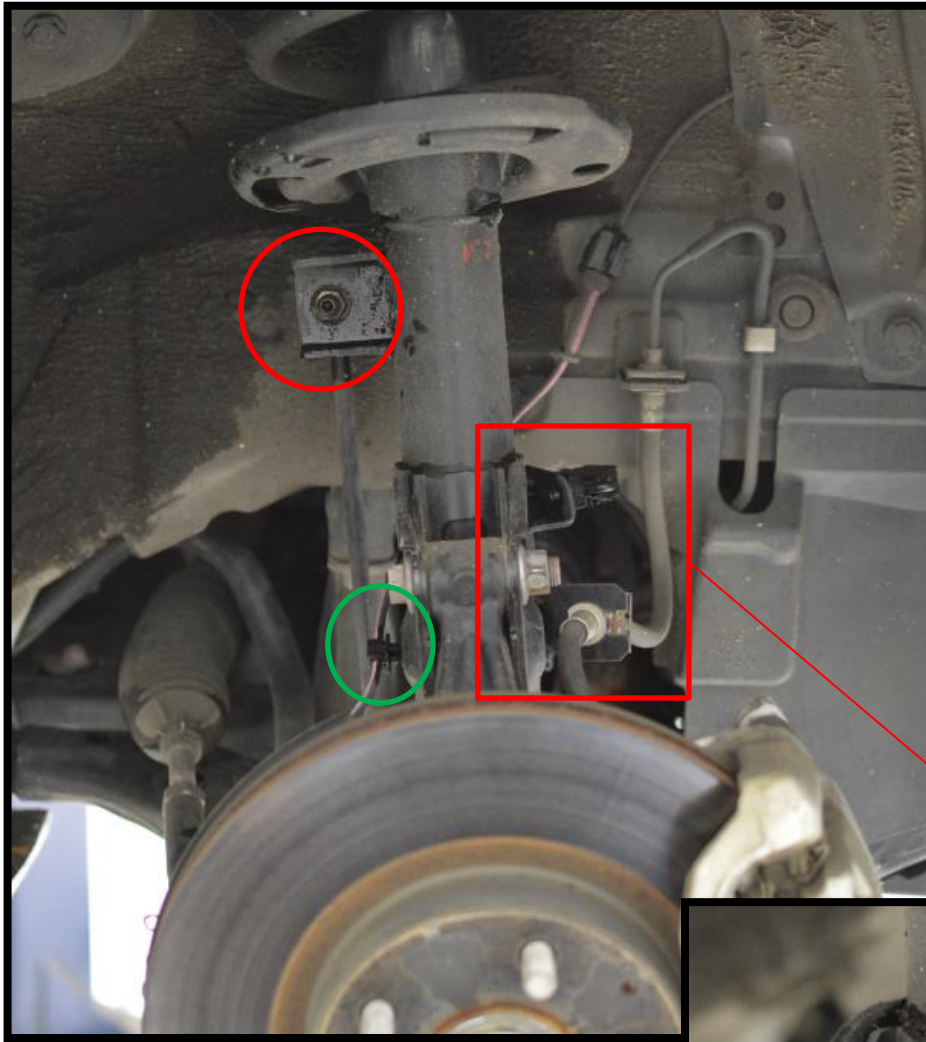

Figure 1a
- d) Disconnect the sway bar endlink with a 14mm wrench and 5mm allen wrench shown with the red circle in Figure 1a.
- d) Remove the ABS sensor wire shown with the green circle in Figure 1a.
- e) Replace the ABS sensor clips removed in Figures 1a and 1b.